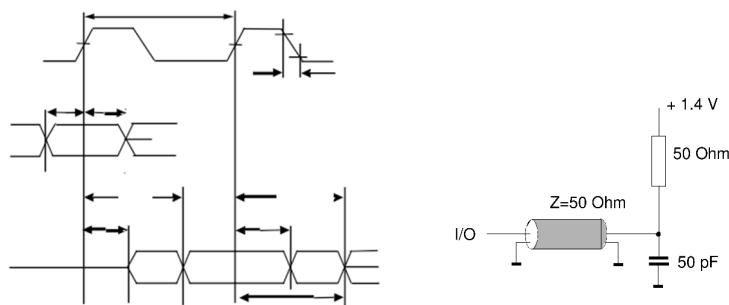

Figure 1
- AC timing tests have  $V_{IL} = 0.4V$  and  $V_{IH} = 2.4V$  with the timing referenced to the 1.4 V crossover point. The transition time is measured between  $V_{IH}$  and  $V_{IL}$ . All AC measurements assume  $t_T = 1ns$  with the AC output load circuit shown in Figure 1.